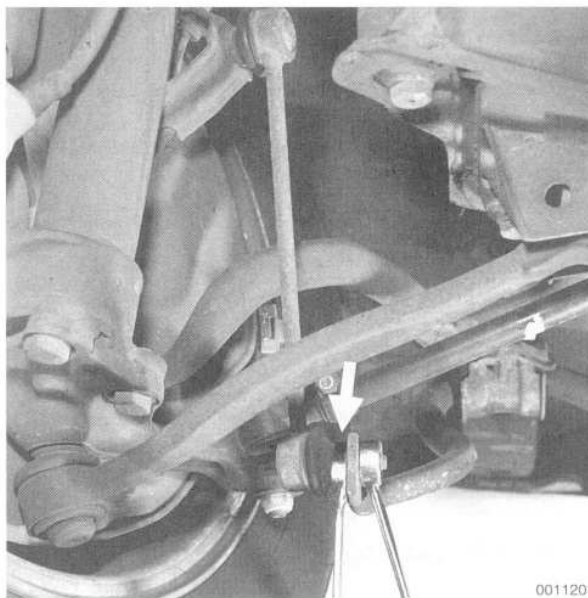

Fig. 12. Stabilizer bar connecting link being removed. Counterhold link from behind (arrow) when removing nut.
2. Remove the lower connecting link nuts and tap the links out of the stabilizer bar. See Fig. 12.